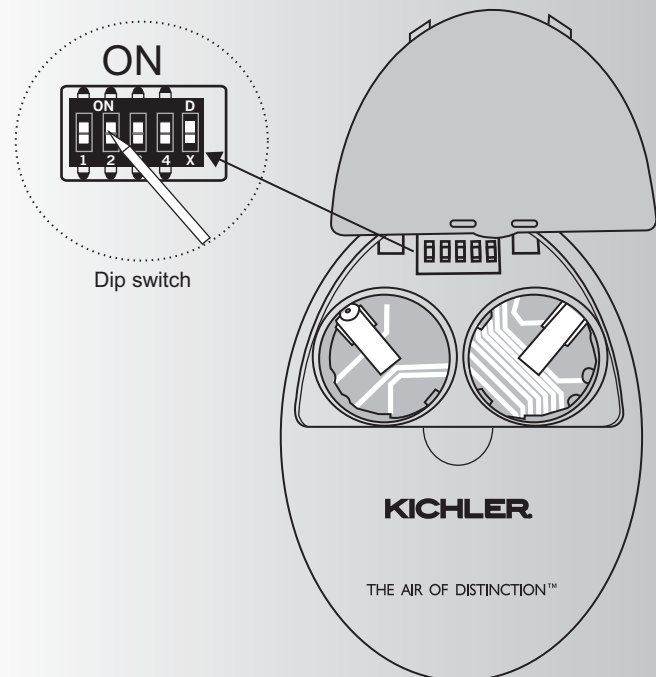

Fig. 18
The Frequency Selector is a “Dip Switch Block” inside the Battery compartment of the Transmitter. (See figure 18) You change frequencies by arranging the small switches numbered 1 through 4 in a up or down position. 16 possible frequencies or combinations are possible.
2. Insert both batteries and make sure they are seated correctly in each recess with the Positive + sign facing up. Replace the battery cover. (Figure 18)